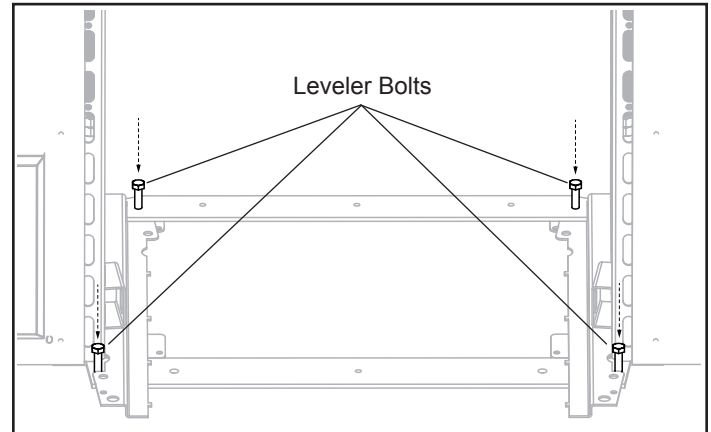

Figure 5.3
The stove is supplied with (4) 5/16-18 Hex Head bolts located in the hardware pack for leg levelers. These bolts should be threaded down through the holes to raise the frame corners as needed to make the frame level as needed, Figure 5.3.